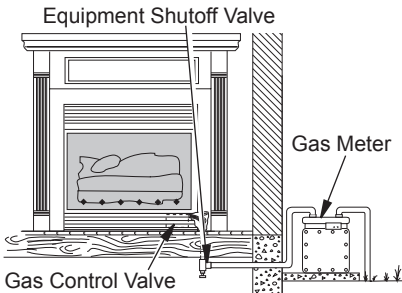

Figure 22 - Checking Gas Joints for Natural Gas
3. Check all joints from gas meter to equipment shutoff valve for natural gas or propane/LP supply to equipment shutoff valve for propane/LP (see Figures 22 and 23, page 16). Apply noncorrosive leak detection fluid to all joints. Bubbles forming show a leak.
4. Check all joints from equipment shutoff valve to gas control valve (see Figures 22 or 23). Apply noncorrosive leak detection fluid to all joints. Bubbles forming show a leak.